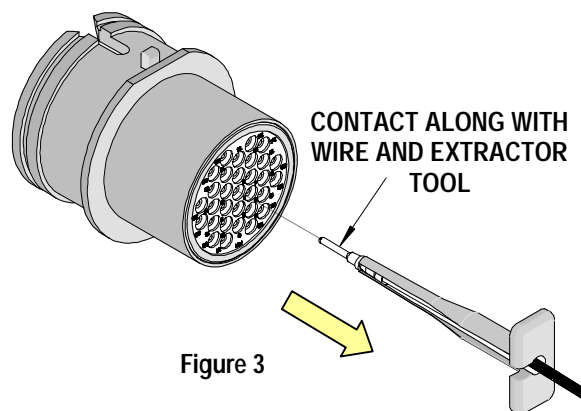

Figure 3
4. While holding the wire against the Extractor Tool, gently pull the wire, tool, and contact out of the connector. If the contact cannot be pulled back, the Extractor Tool needs to be pushed farther into the connector to fully release the latches. See Figure 3.